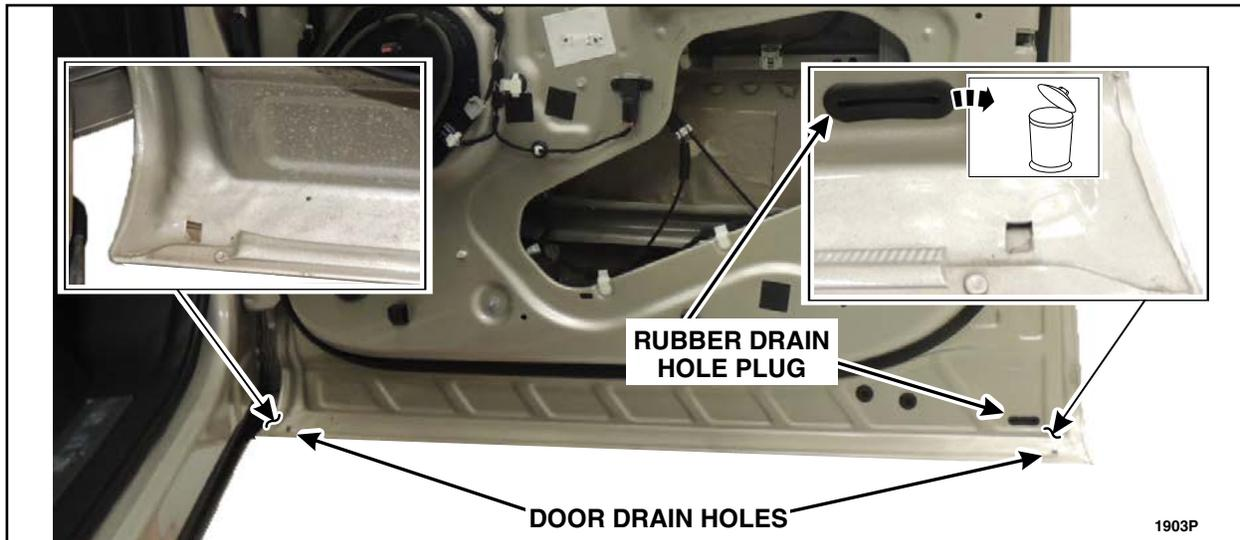

FIGURE 64
6. If water shield kit installation was not necessary, remove and discard the rubber drain plug and clean any obstructions, debris, foreign material and residual water from all of the door drain holes using compressed air and a tool such as a plastic trim tool or a zip tie. See Figure 64.